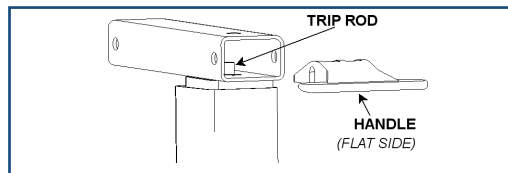

FIGURE 2
4. Place the Top (#1) on a flat surface, with the Top Bracket (#8) facing upward. Then, while holding the Trip Handle (#4) in place so it doesn't fall out, insert the Column (#6) into the Top Bracket (#8). Align the holes in the Column foot (#6), the Trip Handle (#4) and the Top Bracket (#8). Install both bolts (#2) and both nuts (#5) thru these aligned holes with the two (2) 7/16" wrenches. Fig. 2